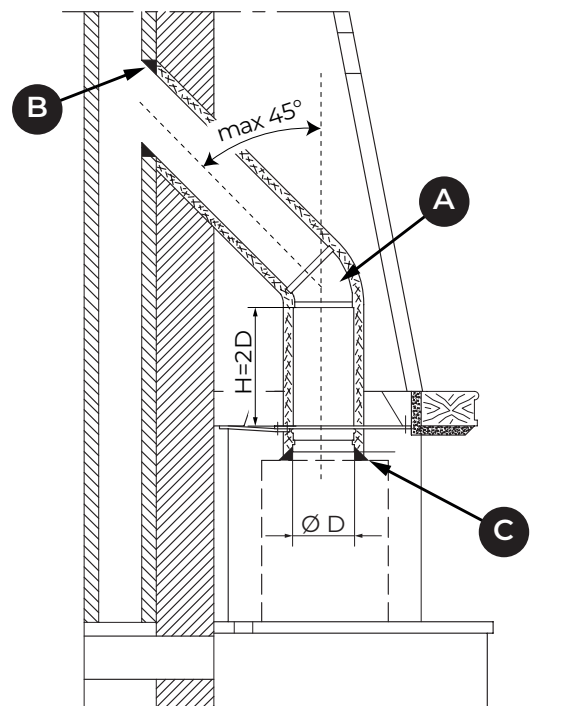

Fig. 7.5
The fume duct (A - Fig. 7.5) between the firebox and the chimney must have the same cross-section as the fume outlet of the appliance, as shown on the technical data sheet "Technical data".
- Direct connection between Ecopalex and chimney flue. In some cases, it is necessary to adapt the existing hole in the hood (or make a new one) in order to facilitate the passage of the flue gas duct (A - Fig. 7.5)
Correct installation of the fume duct between the appliance and the fireplace must be watertight, sealing all the linking joints (B, C - Fig. 7.5) with material suitable for high temperatures.